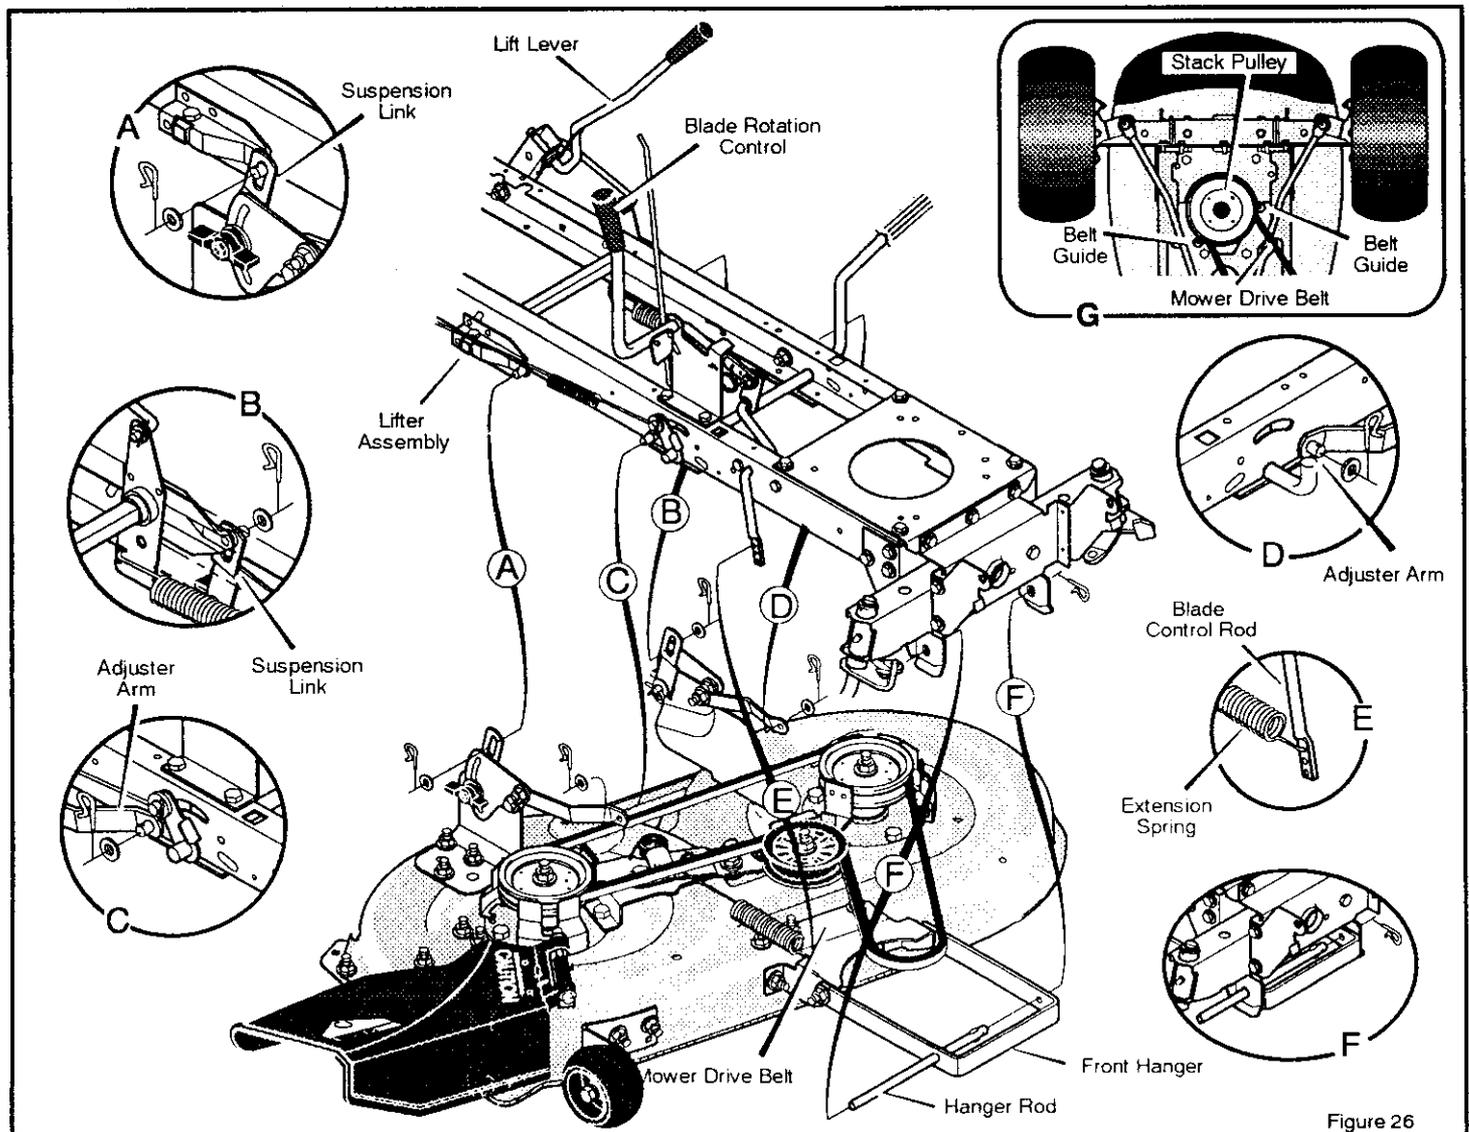

Figure 26
3. Remove the hair pins and the washers from the adjuster arms (Figure 26). See illustrations "C" and "D".